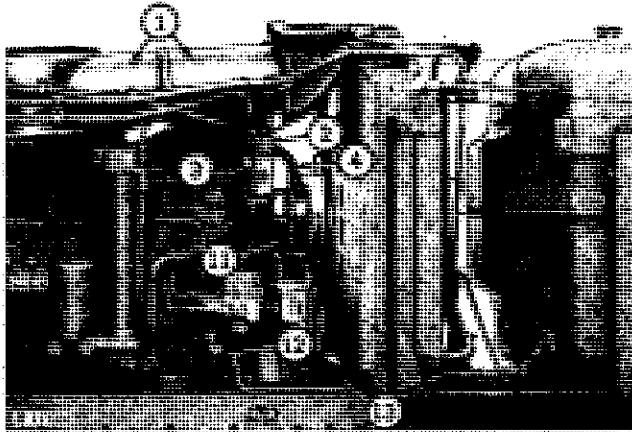

Fig. 19-Right-Hand Side of Engine
1. Remove pre-cleaner, and air cleaner body (Figs. 19 and 20).
2. Remove vertical support bracket (Fig. 19).
11. Remove alternator (Fig. 19).